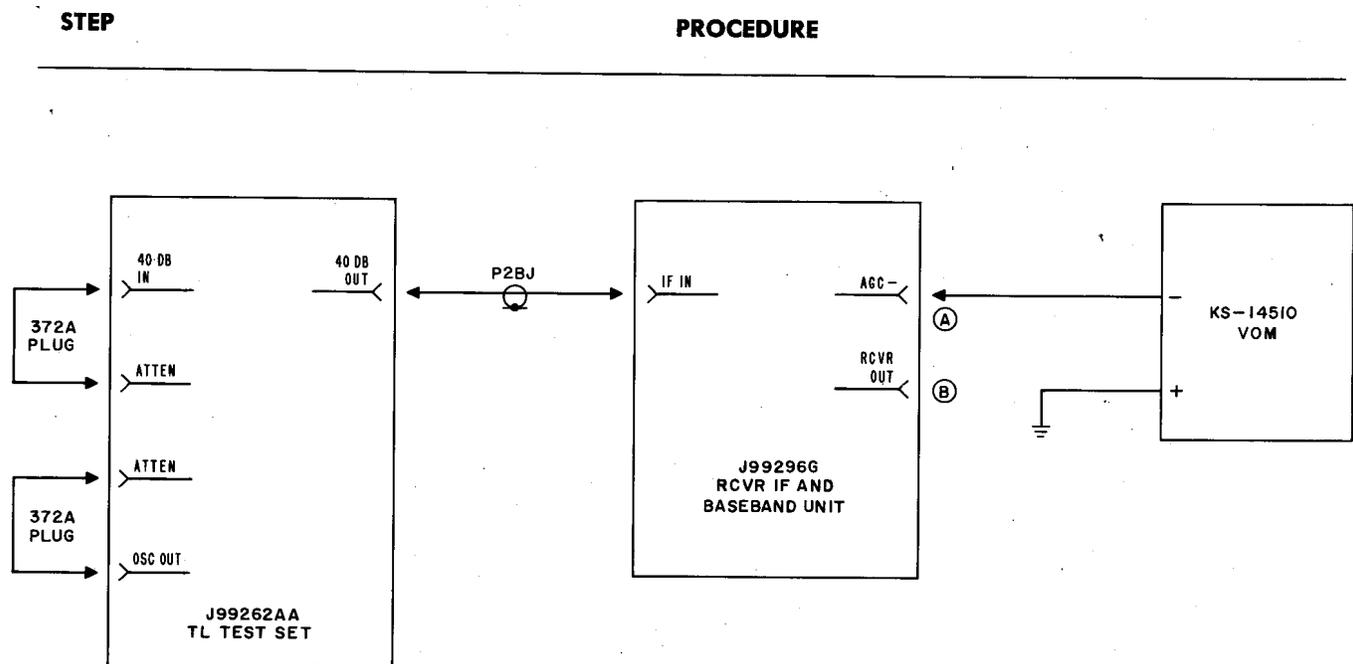

Fig. 1—AGC Operation Check—Test Setup Diagram
3	Make connections in accordance with Fig. 1, option A, with the VOM on the 12-Vdc scale and connected to the AGC jack. Adjust the TL test set for a 70-MHz output at a level of -70 dBm.
- 5 Make connections in accordance with Fig. 1, option B, with the VOM on the $R \times 1$ scale. Adjust the TL test set for a 70-MHz output at a level of -70 dBm.
- 6 Make connections in accordance with Fig. 1, option B, and set the VOM on the $R \times 1$ scale.